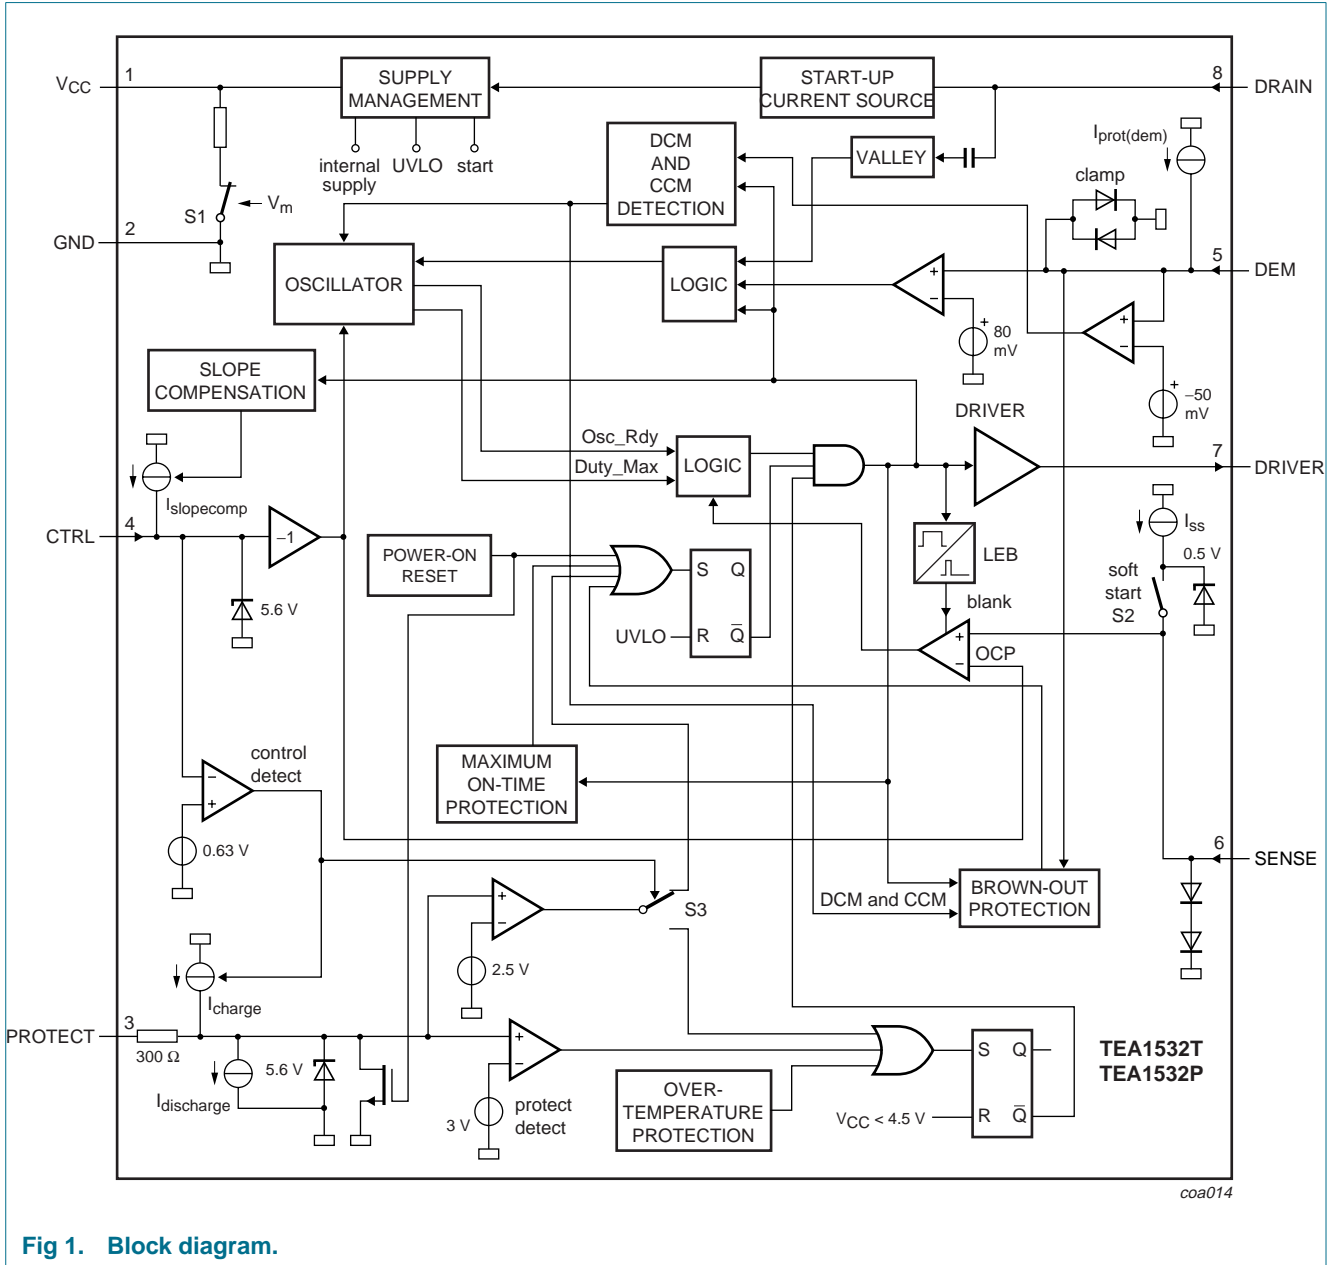

Fig 1. Block diagram.
Refer to Figure 10 and Figure 11. Initially, the IC is self supplying from the rectified mains voltage via pin DRAIN. Supply capacitor C_{VCC} (at pin 1) is charged by the internal start-up current source to a level of about 4 V or higher, depending on the drain voltage. Once the drain voltage exceeds the V_m (mains-dependent operation-enabling level), the start-up current source will continue charging capacitor C_{VCC} (switch S1 will be opened); see Figure 1. The IC will activate the power converter as soon as the voltage on pin V_{CC} passes the V_{start} level. The IC supply is taken over by the auxiliary winding as soon as the output voltage reaches its intended level and the IC supply from the mains voltage is subsequently stopped for high efficiency operation (green function).
- When the voltage on pin CTRL is above 0.63 V, the IC is assumed to be in regulation. In this case activating pin PROTECT ($V_{\text{PROTECT}} > 2.5 \text{ V}$), by external means, will latch the IC: The voltage on pin V_{CC} will cycle between V_{start} and V_{UVLO} , but the IC will not start switching again until the latch function is reset. The latch is reset as soon as V_{CC} drops below 4.5 V (typical value). The internal overtemperature protection will also trigger this latch; see also Figure 1.